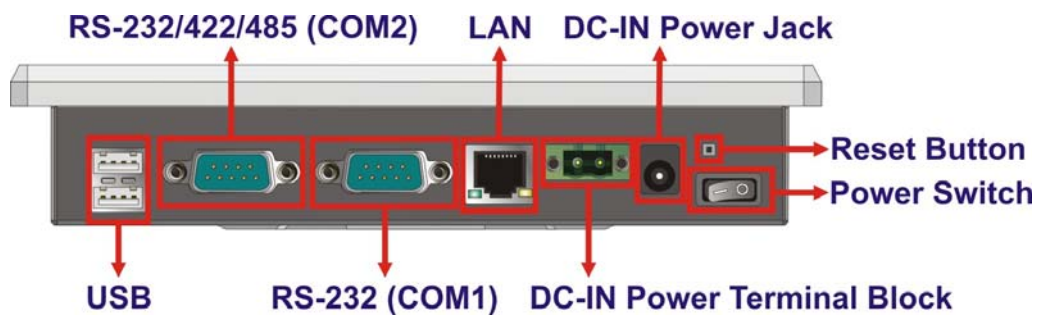

Figure 3-3: IOVU-752S Peripheral Connectors
- CN Location:** See **Figure 3-3**
CN Location: See **Figure 3-3**